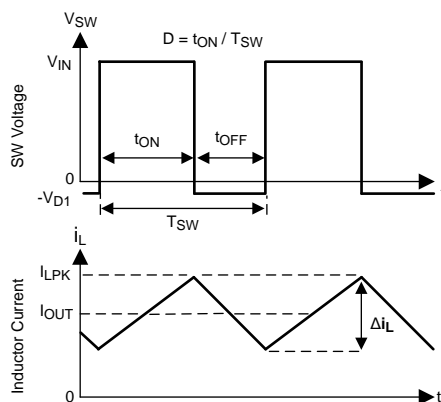

Figure 33. SW Node and Inductor Current Waveforms in Continuous Conduction Mode (CCM)
This description of the LM43601 refer to the Functional Block Diagram and to the waveforms in Figure 33. The LM43601 is a step-down buck regulator with both high-side (HS) switch and low-side (LS) switch (synchronous rectifier) integrated. The LM43601 supplies a regulated output voltage by turning on the HS and LS NMOS switches with controlled ON-time. During the HS switch ON-time, the SW pin voltage V_{SW} swings up to approximately V_{IN} , and the inductor current I_L increases with a linear slope $(V_{IN} - V_{OUT}) / L$. When the HS switch is turned off by the control logic, the LS switch is turned on after a anti-shoot-through dead time. Inductor current discharges through the LS switch with a slope of $-V_{OUT} / L$. The control parameter of buck converters are defined as duty cycle $D = t_{ON} / T_{SW}$, where t_{ON} is the HS switch ON time and T_{SW} is the switching period. The regulator control loop maintains a constant output voltage by adjusting the duty cycle D . In an ideal buck converter, where losses are ignored, D is proportional to the output voltage and inversely proportional to the input voltage: $D = V_{OUT} / V_{IN}$.